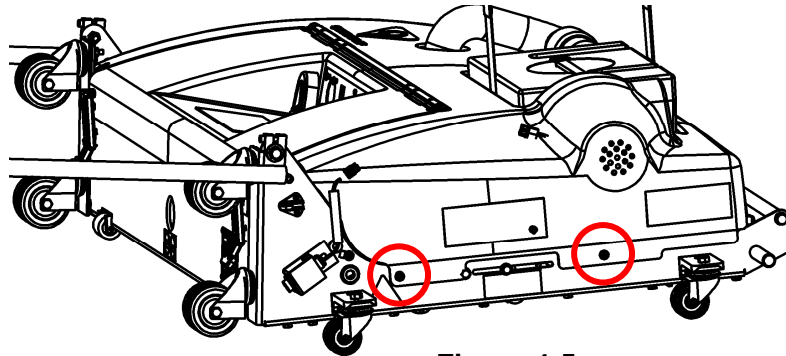

Figure 4-5
1. While it is not absolutely necessary to remove the hood in order to perform this procedure, removing the hood will improve access to the buffer linkages, but will require you to reinstall the hood to check the adjustment. To remove the hood, unlatch the oil compartment door latches, disconnect the vacuum hose and remove the waste tank, remove the cap from the cleaner tank, remove the two screws from each side of the hood (see Figure 4-5), and lift the hood from the frame. Set the screws aside.
1. Unlatch the oil compartment door latches, disconnect the vacuum hose and remove the waste tank, remove the cap from the cleaner tank, remove the two screws from each side of the hood (see Figure 4-5), and lift the hood from the frame. Set the screws aside.